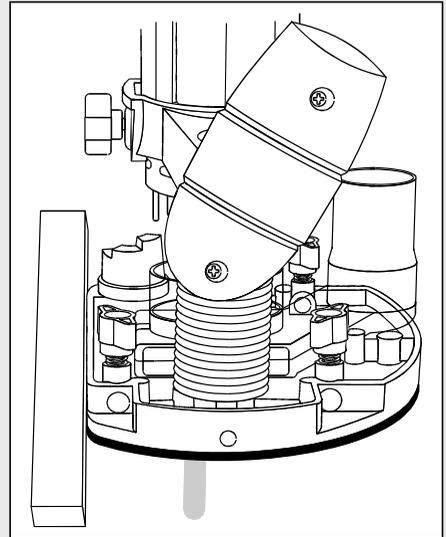

Fig. 20
1. Draw a line on the workpiece where you wish to make the cut (Fig. 20).